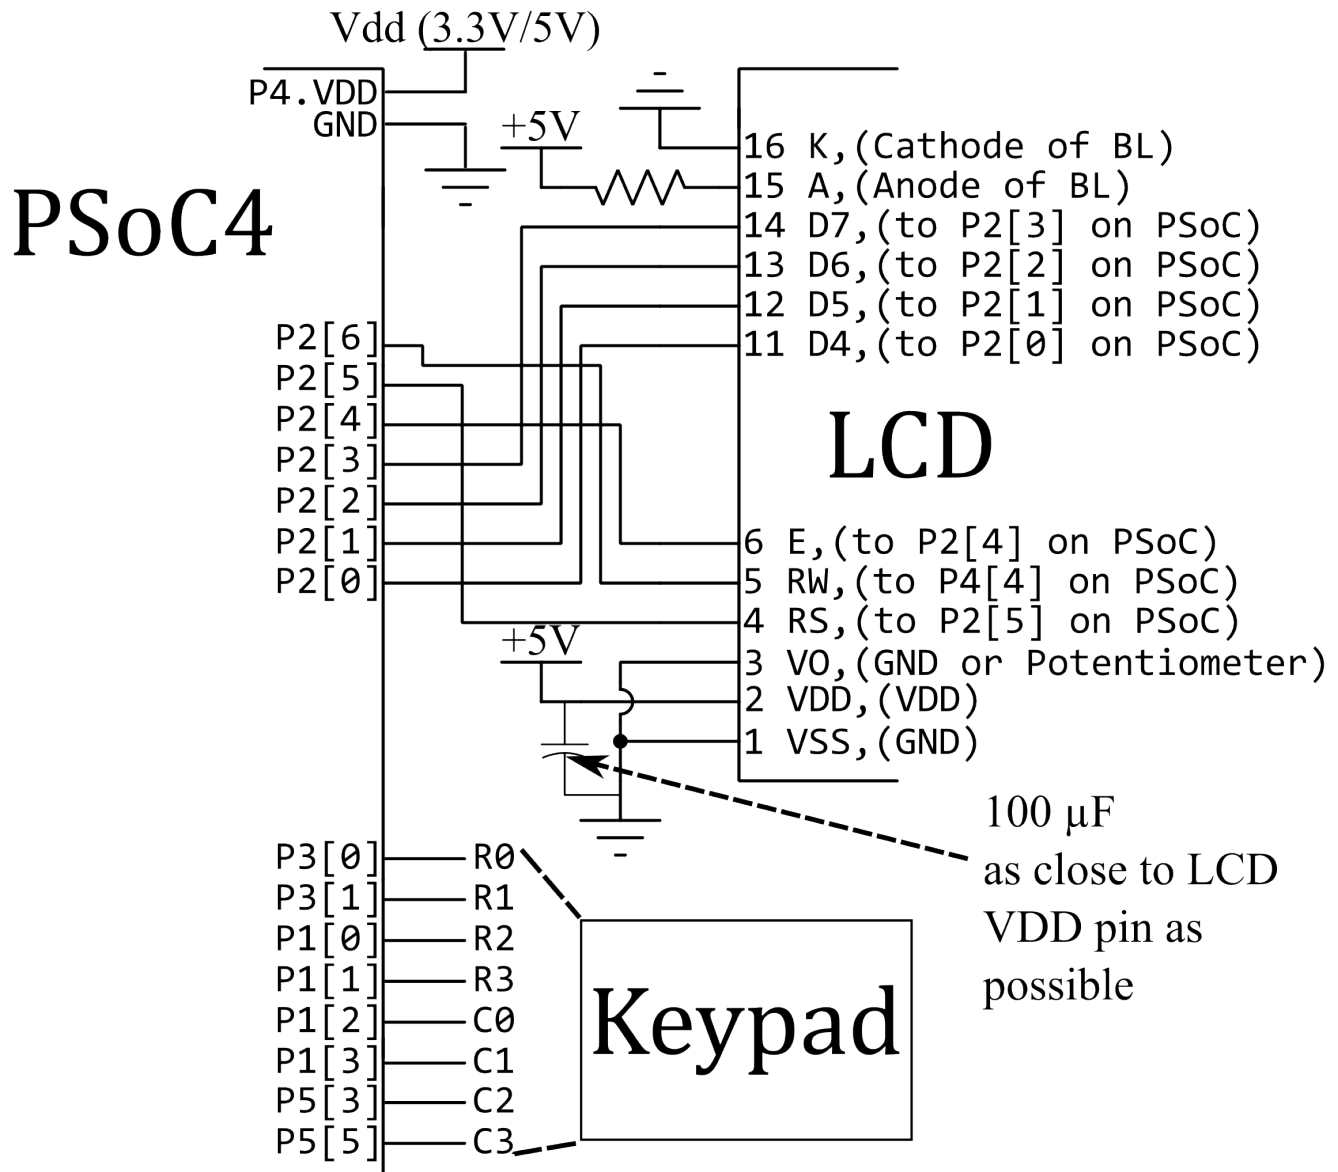

Figure 2: Hardware Schematic
- Double-click “Pins” under “Design Wide Resources” to bring up the pin assignment window. Assign “\LCD:LCDPort[6:0]\” to Port P2[6:0] as shown in Figure 2. Map R0-R3 to the pins in Figure 2, and C0-C3 to those pins in Figure 2.